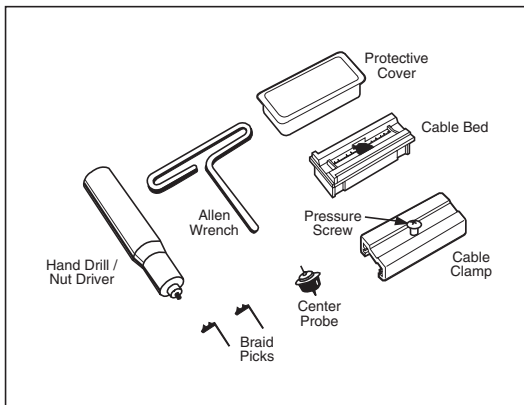

Fig. 2. Piercing Tap and Installation Kit Parts
1. Familiarize yourself with the various parts of the piercing tap shown in Fig. 2.
2. Insert the braid terminators into the tap body (see Fig. 2).